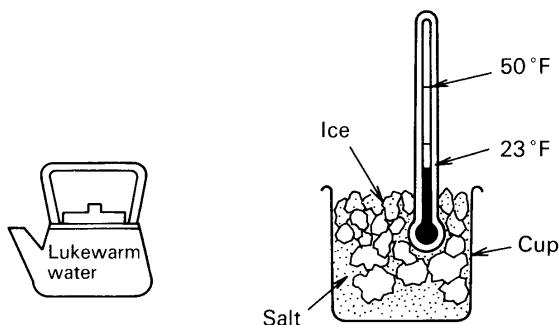

Fig. 13
- 5) If discontinuity around 23 °F is confirmed, pour luke-warm water (not boiling hot) and observe continuity around 50 °F. Fig 13